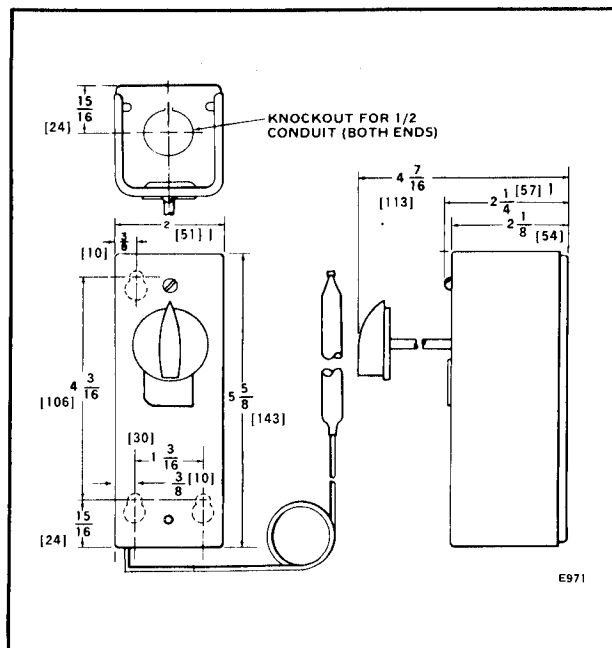

FIG. 1—APPROXIMATE DIMENSIONS IN in. [mm IN BRACKETS] OF T678 (with case). ONLY T678D HAS KNOB.
Case—see Figs. 1 and 2.
2. Fasten the case to the wall or panel through mounting holes in the back of the case with furnished screws. (See Figs. 1 and 2.)